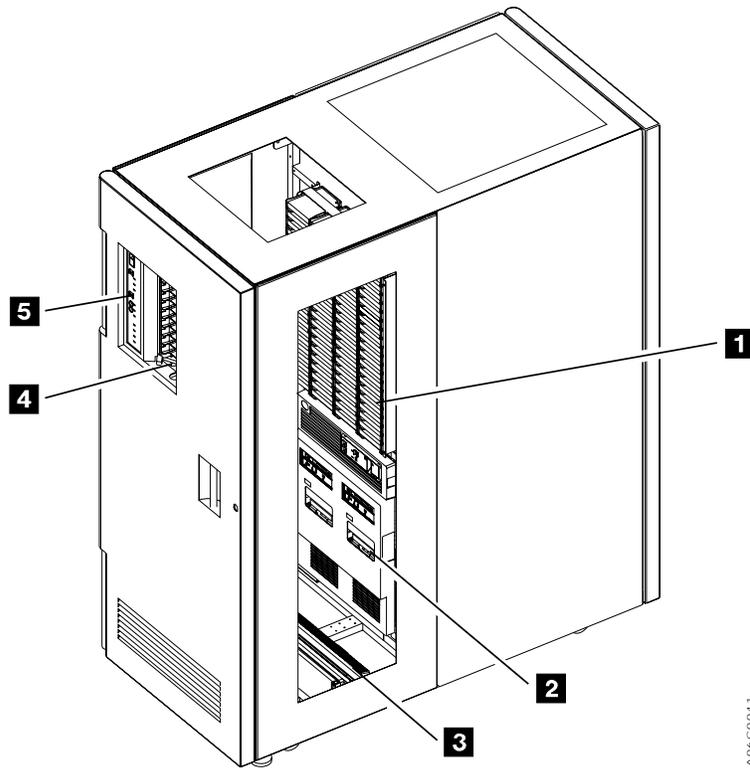
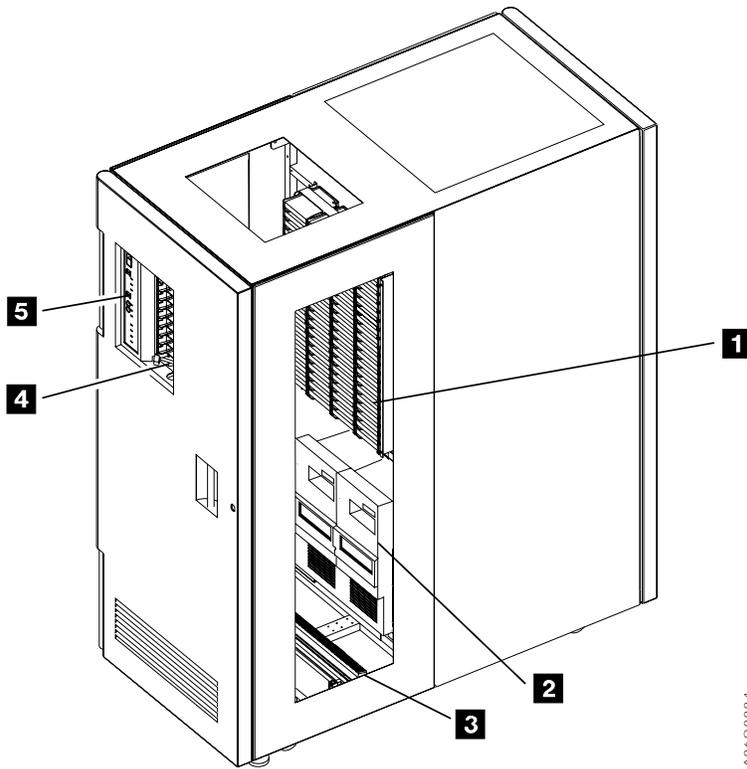

Figure 2. Control Unit Frame Functional Components, 3490E (Front View)
Figure 3. Control Unit Frame Functional Components, 3590 (Front View)
Figure 2 on page 5 and Figure 3 on page 6 show the front of the control unit frame, with the following functional components:
The cells are located on the inside of the front door and on the back wall of the frame (see Figure 2 on page 5 or Figure 3 on page 6).
- 3490E Magnetic Tape Subsystem Model C1A, C2A, or F1A (see Figure 2 on page 5)
- 3590 High Performance Magnetic Tape Subsystem Model B1A or E1A, with or without a 3590 Model A00, A50, or A60 Controller (see Figure 3 on page 6)
- The 10-cartridge Convenience Input/Output Station (see Figure 2 on page 5)